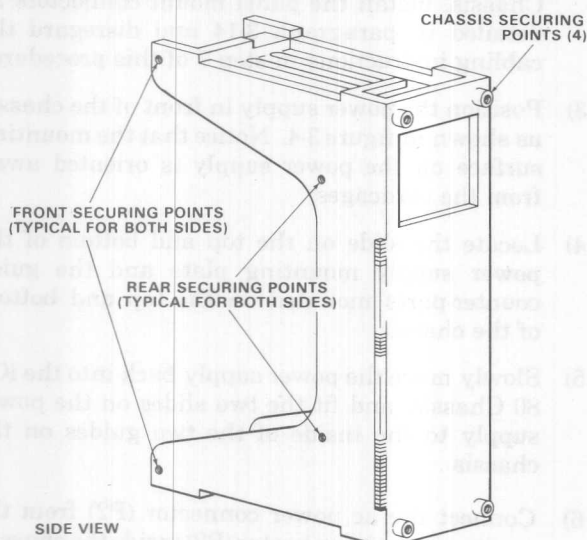

Figure 3-2. iSBC 604/614 Cardcage Securing Points
- 6) Using two 6-32 X 1/2 screws/fasteners from the installation kit with the iCS 80 Chassis, fasten the iSBC 604 and 614 Cardcage Assemblies together at the rear securing points. Reference figure 3-2.
- 8) Secure the iSBC 614 Cardcage to the chassis with four 6-32 self-tapping screws/flat washers from the installation kit. The chassis securing points are shown in figure 3-2.